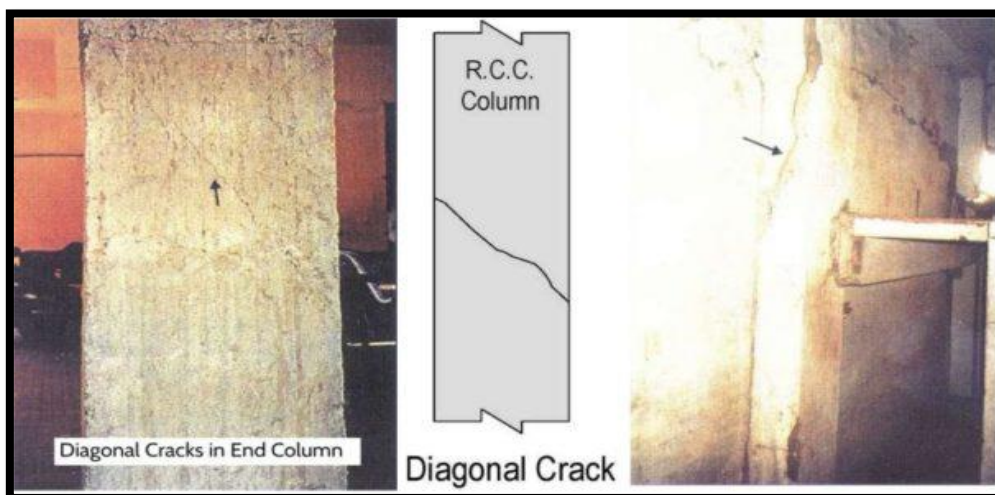

Figure 1: Diagonal Crack In The Concrete Column^{[3][4]}
- a) **Diagonal Crack:** The crack propagation is diagonal along the entire column face. This crack formed due to incorrect design causing the column to have inadequate load-carrying capacity. Diagonal cracks in the column indicate that the column may have not enough reinforcement area or inadequate cross-section of the column. Figure 1 shows the diagonal crack in the concrete column.